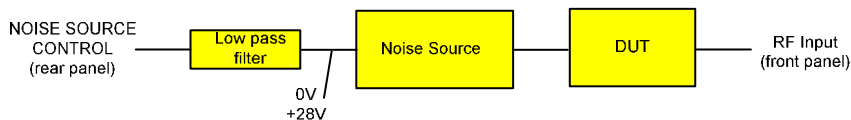

Fig. 2–33: Test setup for the main measurement
1. Insert the DUT (in this example, the amplifier) into the test setup between the noise source and RF input of the R&S ZVL (see Fig. 2–33).